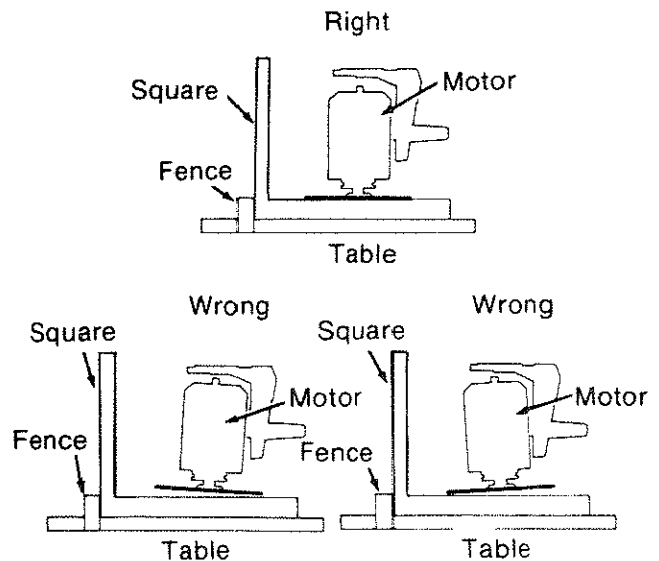

Fig. 70
8. If the square is flush with the *blade* after each rotation (Figure 70) go to step 18, or
If there is a gap between the square and the *blade* after any rotation (Figure 70) go to step 9.